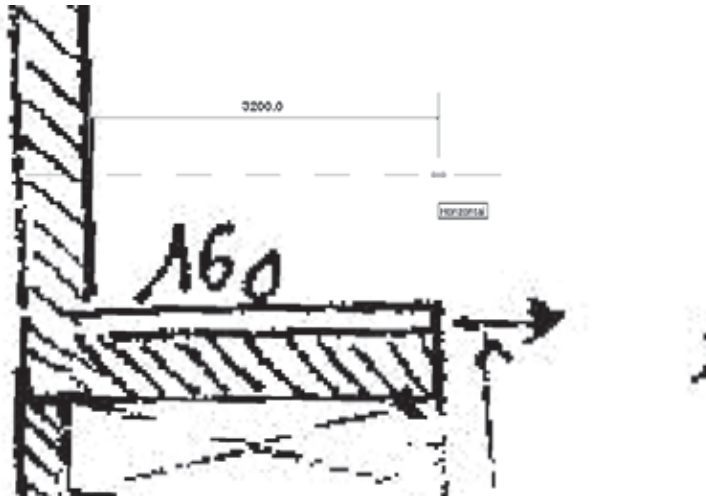

Figure 7.59
4. Still with the image selected and using the Scale tool ( Scale), also located in the Modify panel, measure the length of the wall. The tool prompts you to choose two points, and a temporary dimension will show up indicating the length (see Figure 7.59). Make your first two picks correspond to the length of the wall in the image, and then select a third point to resize the image. Use the temporary dimensions to help visualize the change.